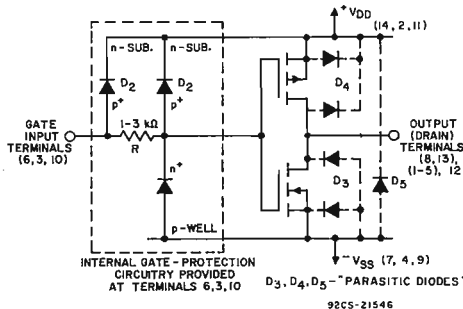

Fig. 34—Integral protection circuits used in CA3600E.
Fig. 34 shows a protection circuit^{5,8} which is incorporated at each gate-lead of the CA3600E. A typical value of 1 to 3 kilohms is used for the input resistor R , which functions in combination with the capacitance of the gate and the associated protective diode to integrate and clamp input voltages to a safe level. This circuit also shows the "substrate diodes" (D_3, D_4 , and D_5) which provide protection to the MOS channels at the output terminals.
4. Signals from low-impedance sources should not be applied to the gate terminals while the power supply is off. As a corollary, it follows that the power supply should not be turned off while a signal from a low-impedance source is being applied to any gate terminal. When the V_{DD} supply is off, the positive "back-bias" voltage is removed from the cathode of diode D_2 (see Fig. 34). Consequently, an input signal with positive-going polarity can drive D_2 into conduction. Under these conditions a low-impedance signal source can provide sufficient current to permanently damage D_2 and/or melt aluminum interconnection paths. Therefore, if, in any system design using the CA3600E, any gate input excursion is expected to exceed $+V_{DD}$ or fall below $-V_{SS}$, the current through the input diodes should be limited to 100 μA .